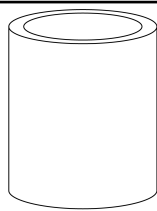

Figure 4: Qualcrimp Crimping Accessory
• Qualcrimp Crimping Accessory (Figure 4)